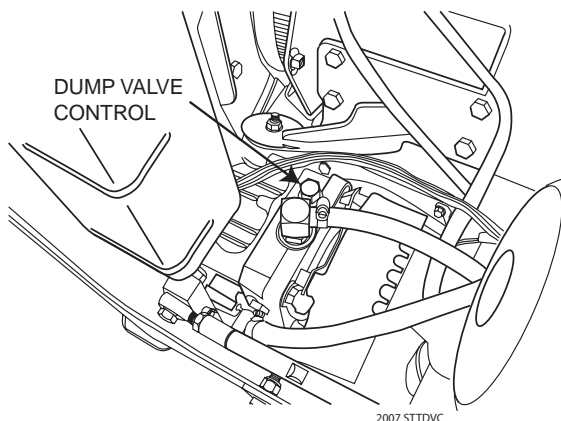

Figure 4-2. Dump Valve Control
13. **Dump Valve Control Levers (Figure 4-2).** Located on the hydraulic pumps, used to "free-wheel" the mower. Rotating the levers clockwise until they stop allows the unit to move under hydraulic power. The levers must be in this position and torqued to 10 lb-ft during operation of the mower. Rotating the levers counter-clockwise allows the mower to be moved by hand (free-wheeling).